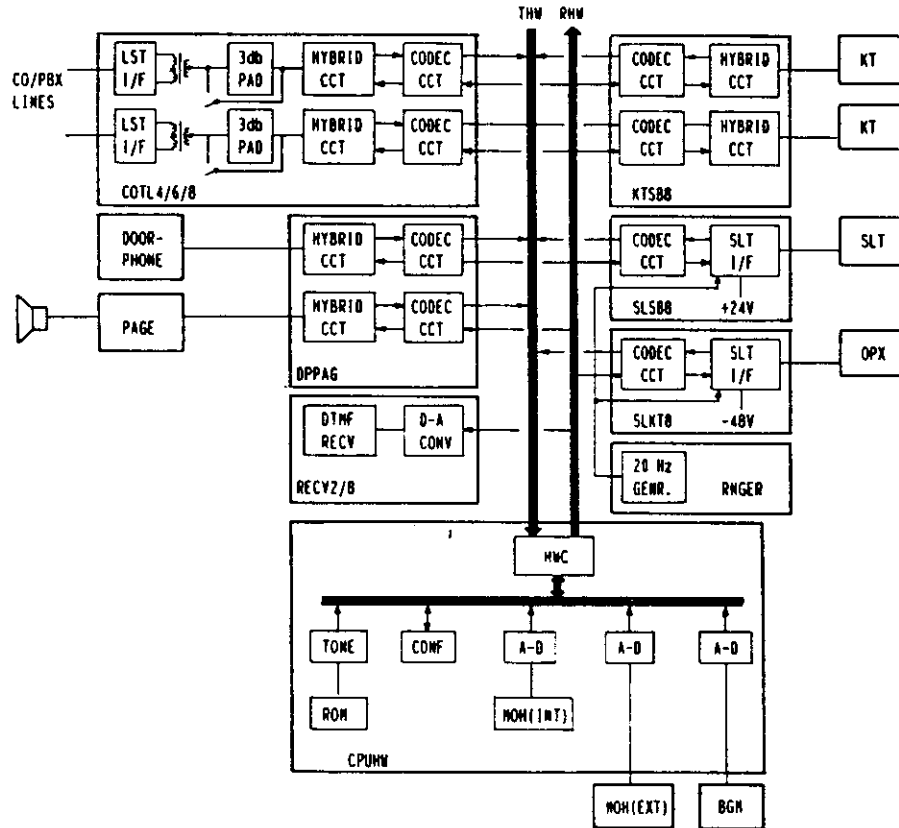

FIGURE 6-4 SPEECH PATH ARCHITECTURE
2.04 The time division highway consists of the system speech path and digital control techniques including custom LSI which simplifies the switching and the system operation. Figure 6-4 illustrates the digital speech path architecture.